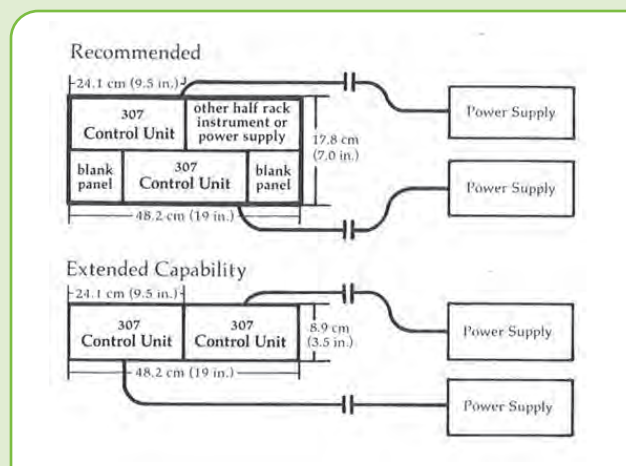

Figure 1 - Mounting Options
- Two control units can be mounted in rack space of one conventional controller. (See Figure 1)